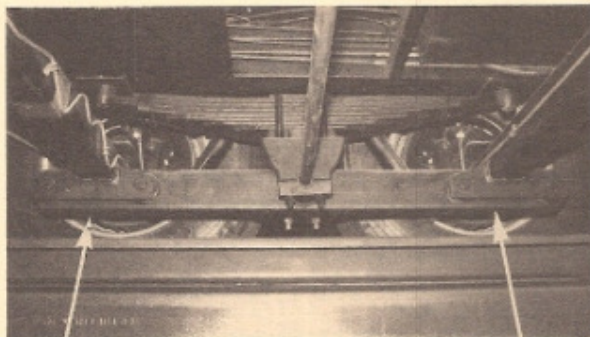

Figure 133 – Rear Axle Hanger Beam
1. Raise both tires of one side at rear axle hanger beam. (See figure 133.)